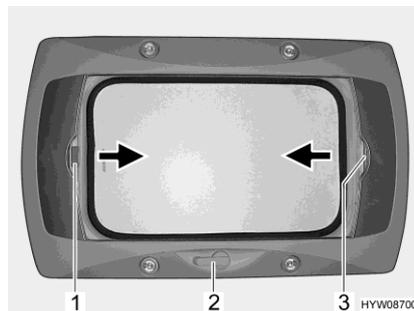

Fig. 72 Wind-up skylight
- Rotate the hand crank (Fig. 72,2) until a resistance can be felt.
- Pull the handle of the Roman shade (Fig. 72,3) in the direction of the arrow and release it in the desired position. The Roman shade will stay in that position.
- Use the handle to pull the insect screen (Fig. 72,1) in the direction of the arrow to the opposite handle of the Roman shade (Fig. 72,3) and allow it to engage.
- Press the handle of the insect screen (Fig. 72,1) at the back upwards and detach the insect screen from the Roman shade (Fig. 72,3).